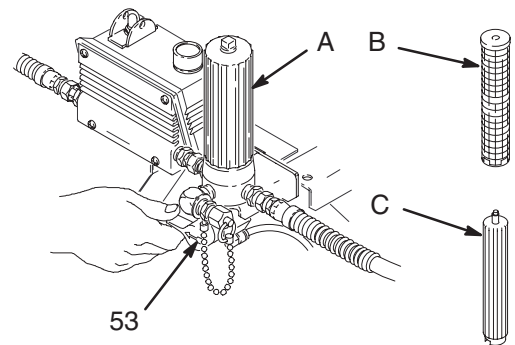

Fig. 4
2. Remove the filter bowl (A) and screen (B); see instruction manual 307273, supplied. Install the bowl and support (C), without the screen, to flush. Clean the screen separately. See Fig. 4.
3. Close the pressure drain valve (53). See Fig. 4.
**NOTE:** Steps 1 to 13 refer to Fig. 5 and Fig. 4.
2. Remove the screws (55) and the front cover (13).
3. Remove the spring clip (54) and disconnect the drain hose (104) at the pressure drain valve (53). Unscrew the inlet manifold (98) from the pumps, holding a wrench on the pump intake valve (B) to keep the pump from loosening.
4. Disconnect the hose union (99) from the outlet nipple (29).
5. Remove four screws (74) from the outlet manifold. Do not remove the manifold halves from the displacement pump.
6. Use a screwdriver to push up the retaining spring (17) at the top of the pump. Push the pin (16) out the rear.
7. Loosen the jam nuts (18) with an adjustable wrench. Rotate pump 1/4 turn to allow clearance for the second pump to turn. Unscrew and remove the displacement pump.
8. Use a hex key wrench to remove the four screws (57) and lockwashers (58) from the bearing housing (15).
9. While pulling the connecting rod (14) with one hand, lightly tap the lower rear of the bearing housing (15) with a plastic mallet to loosen it from the drive housing (12). Pull the bearing housing and the connecting rod assembly (14) off the drive housing.
10. Inspect the crank (A) for excessive wear and replace parts as needed.